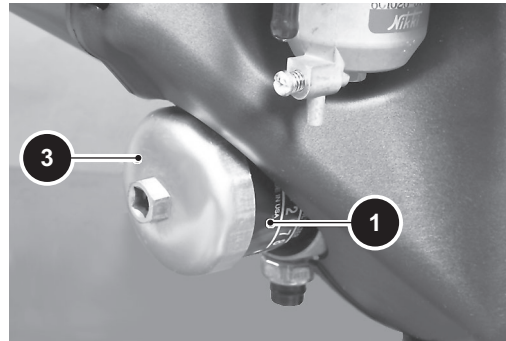
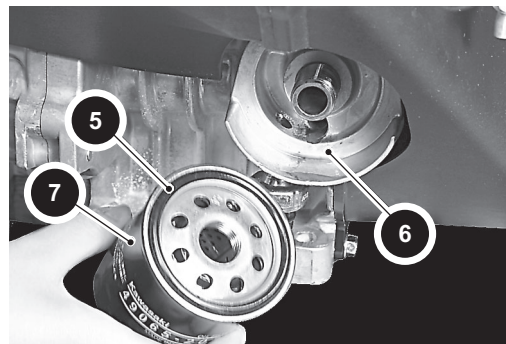

Fig. 6 Remove Oil Filter
Fig. 7 Inspect Oil Filter
Clean the area around filter. Place the oil drain pan under the filter area. Using a filter wrench, strap wrench or other suitable filter wrench (3), remove the filter (4) from the engine and allow the oil to drain into the oil drain pan (Ref. Fig. 6). The 'O' ring (5) may remain on engine (6) or filter (7) (Ref. Fig. 7).